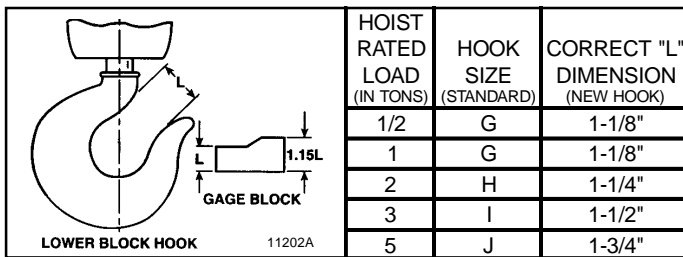

Figure 5-1. Proper Hook Opening.
as. **DO NOT** operate hoist with hooks that have opened up. See Figure 5-1.
- f. Check throat opening of hook. (Refer to Figure 5-1.) It is recommended that upon receipt of the hoist a measurement be made and recorded of the hook throat opening. OSHA Standards require that the hook be replaced if the throat opening exceeds 15 percent of the original opening, or if the hook is twisted more than 10 degrees from the unbent plane. A gage block, properly identified to the hoist, similar to the one shown in Figure 5-1, is suggested to be made for each hook for use in these measurements.